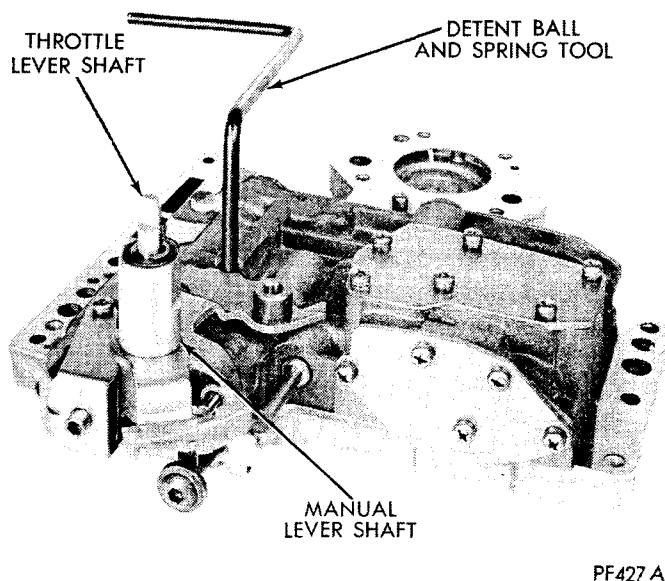

Fig. 42—Installing Detent Balls, Spring, and Control Levers
(1) Install throttle valve, throttle valve spring, kickdown valve, kickdown detent.
(2) Slide manual valve into its bore.
(3) Install throttle lever and shaft on valve body (Fig. 40). Insert detent spring and ball in its bore in valve body. Depress ball and spring with Tool C-3765 (Fig. 42) or similar tool and slide manual lever over throttle shaft so that it engages manual valve and detent ball. Install seal, retaining washer and E-clip on throttle shaft.
(4) Insert torque converter control valve and spring into valve body.
(5) Insert line pressure regulator valve and spring into valve body.
(6) Install pressure adjusting screw and bracket assembly on the springs and fasten with screw which goes into side of valve body. This screw is to be tightened first, after starting the top and bottom screws.